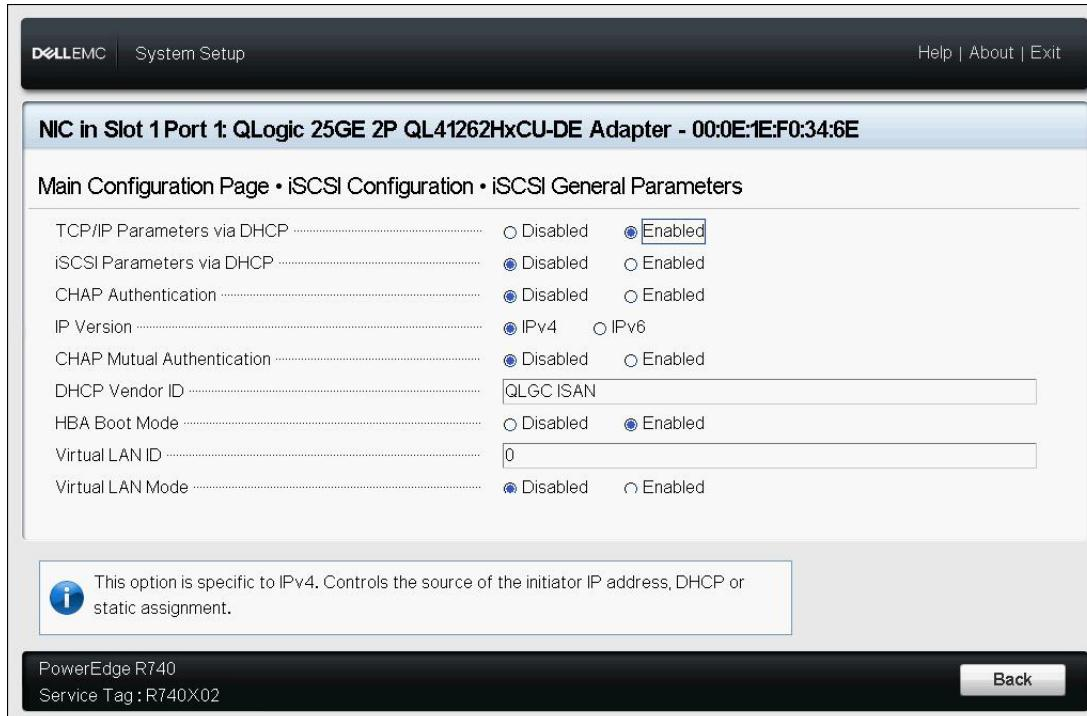

Figure 5-11. iSCSI General Parameters
- iSCSI General Parameters** (Figure 5-11 on page 52)